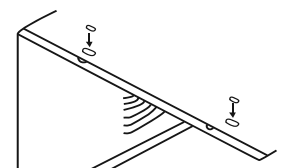

Fig.6
9. Add two foam inserts to holes in top of cabinet where shipping screws were removed from (see Fig.6).
1. Attach foam gasket to top rail above holes as shown in Fig.6.